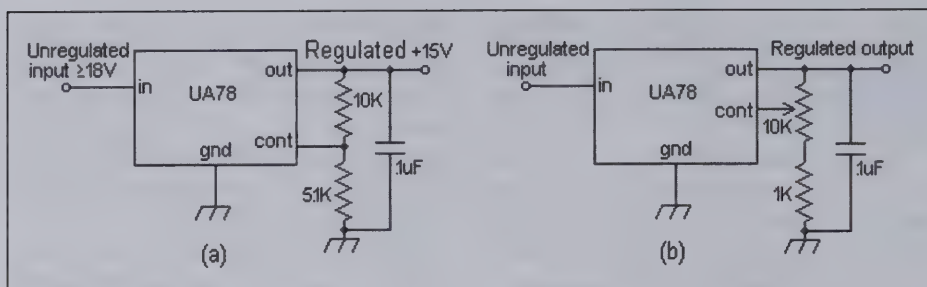
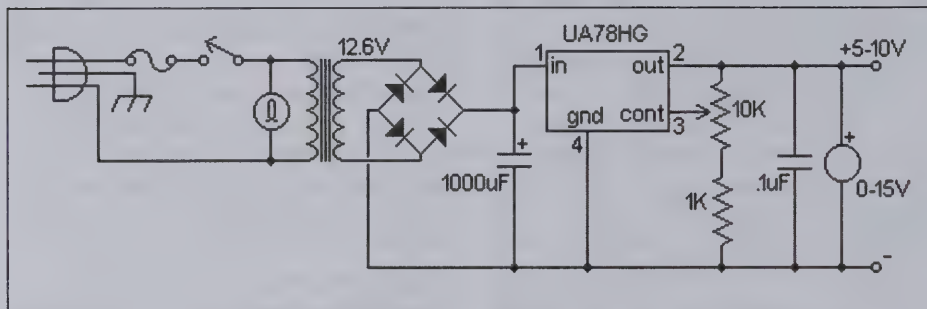

Figure 6—The UA78 as a fixed (a) and an adjustable (b) voltage regulator.
Figure 7—A complete adjustable, regulated power supply using a UA78HG.
Fairchild introduced four-terminal regulators in several packages at about the same time that the more familiar three-terminal regulators began to appear; that is, more than thirty years ago. Like their three-terminal cousins, they require only a few external components and so are very easy to use. Unlike the three-terminal regulators, they have a separate control terminal; they work by maintaining this terminal at a fixed voltage from ground. For the UA78, that voltage is +5 V, as Figure 6(a) from Horowitz and Hill (ref. 1) illustrates. With +15 V at the regulator’s output, the voltage divider applies +5 V to its control terminal; the regulator adjusts the output to maintain this condition.
Replacing the fixed voltage divider in Figure 6(a) with a potentiometer yields an adjustable regulator, with output from 5V to a volt or two less than the input voltage. Figure 6(b) illustrates this extension of the first example. The 1k fixed resistor ensures that the control terminal always receives a non-zero voltage from the divider.
Since the circuit in Figure 6(b) has so few parts, breadboarding it didn't even require a breadboard; I used clip leads and confirmed that it worked. I decided then to build a complete power supply, whose circuit Figure 7 shows.